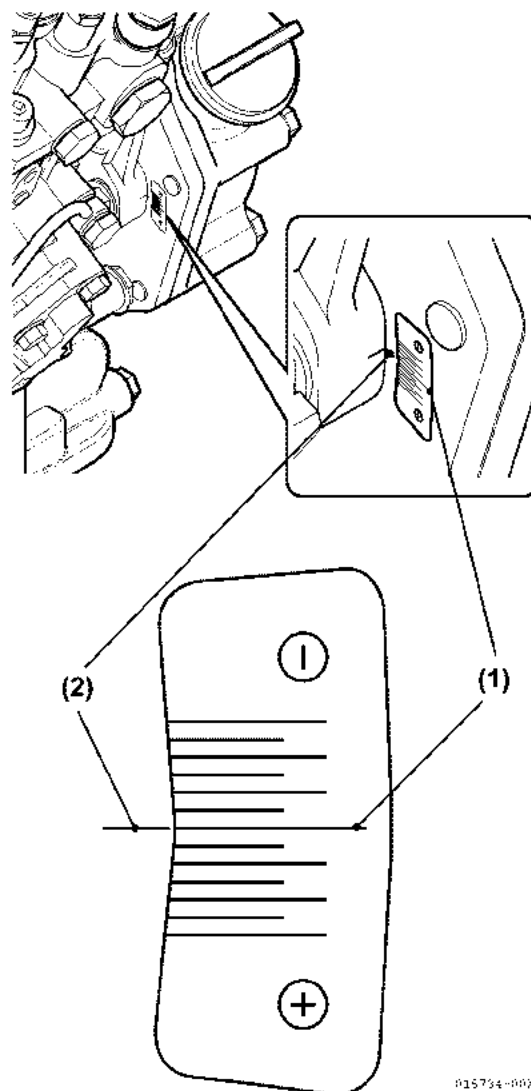

**Figure 6-43**
- (a) Align the reference marks (Figure 6-43, (1)) previously made on both the fuel injection pump mounting flange and gear case or front plate.